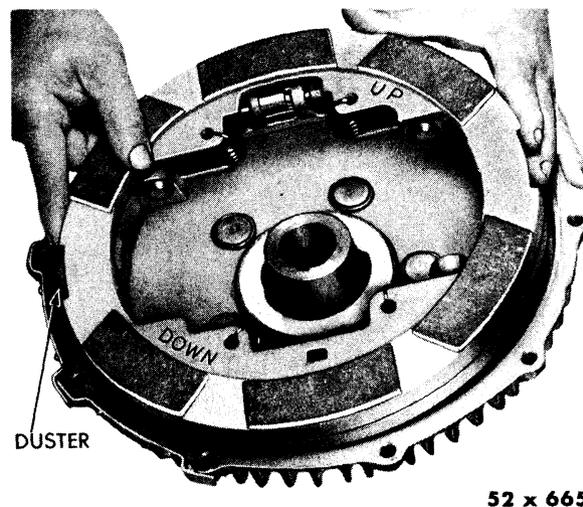

Fig. 54—Removing or Installing Pressure Plate Assembly (Rear Disc Brake)
- (2) Install pressure plate assembly in outer housing half, as shown in Figure 54.